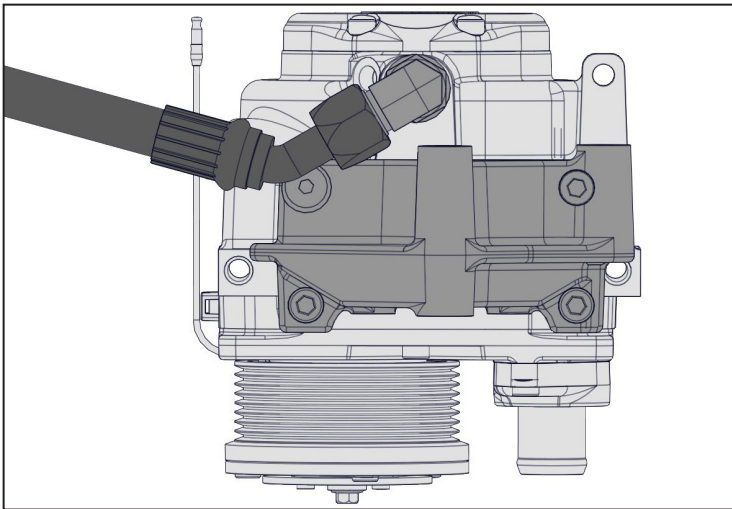

Figure 13 — Compressor discharge hose
- Install the 45° fitting from the 1/2 in × 24 1/2 in discharge hose onto the compressor discharge fitting. Orient the hose in the same direction as the #6 JIC oil fitting on the side of the compressor and tighten the hose securely (Figure 13).